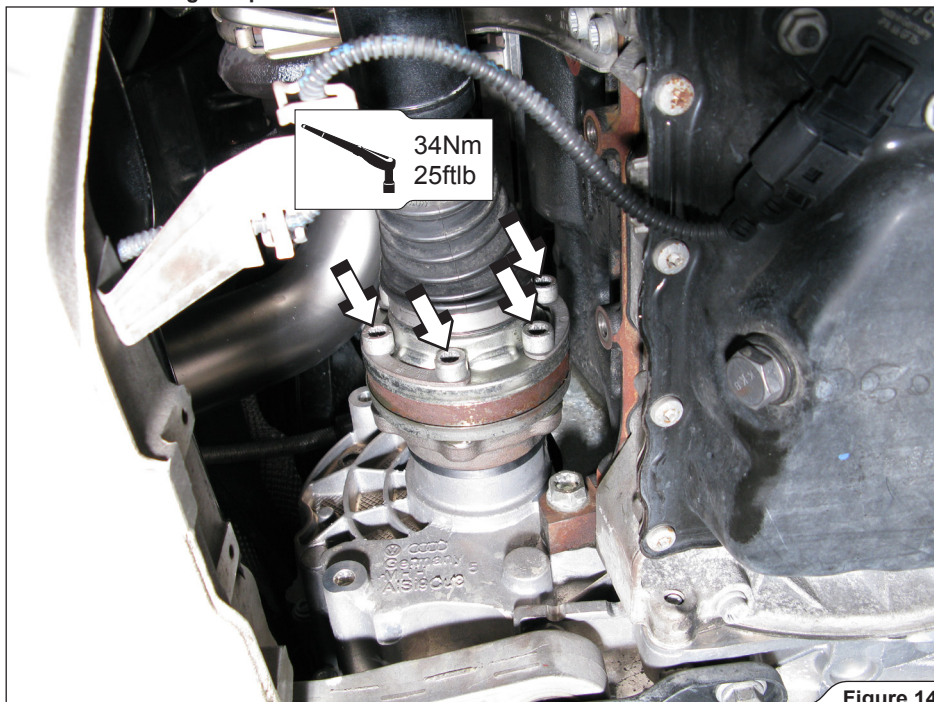

Figure 14
3. Reassemble the output shaft and shaft's shield (Figure 14, 15).